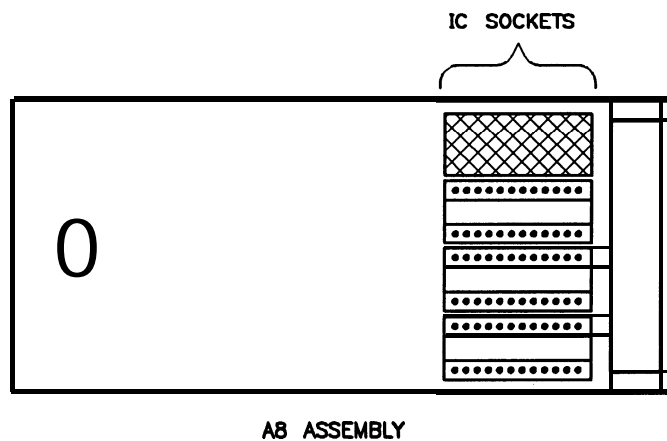

Figure A-2. EEPROM Installation Location
- d. Install EEPROM (85101-80114) from the upgrade kit in any one of the empty EEPROM sockets on the A8 assembly (see Figure A-2).